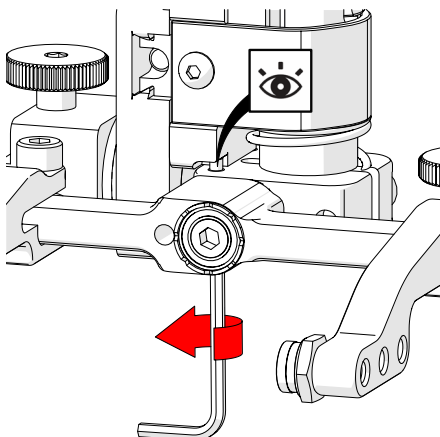

Fig. 122 - Raise opposite 90° stop post
8. Raise the stop post on the opposite side until the side of the post clearly contacts the 90° stop point on the probe holder's base (Fig. 122).